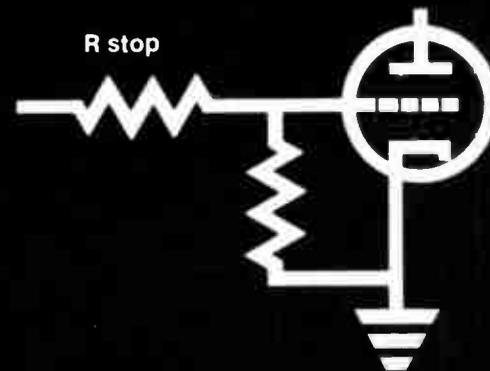

Fig. 15
1. All grounding should be to a good earth ground such as a metallic cold water pipe or 8' ground rod. Ground leads should be as short as possible. Remember, a DC ground may appear as an open circuit to RF energy. Ground leads should be of as large a diameter wire as practicable. Finally, grounding of the chassis, shields of speaker leads, and other external connections should be made to a common point to avoid ground loops. (Ground loops are circuits that form a DC ground, but contain RF circulating currents.) Figure 15 shows the correct and incorrect methods of grounding components.
3. A grid-stopping or "swamping" resistor can also be employed. A resistor, ranging in value from 1 k to 75 k ohms, can be connected in series with the grid as shown in Figure 15.